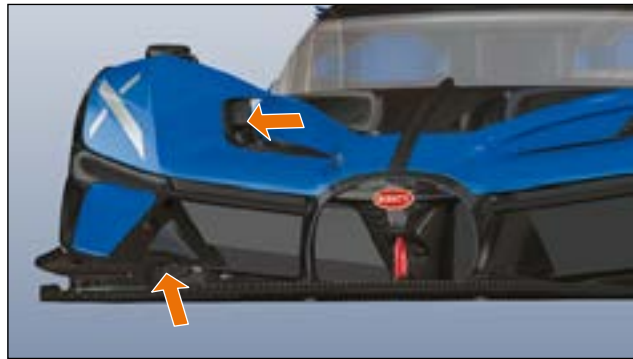

FIG.92 EXTERNAL FANS FRONT BUMPER
- Place the external fans in front of the air ducts as soon as the car is stationary, within 10 seconds (» Fig.92).